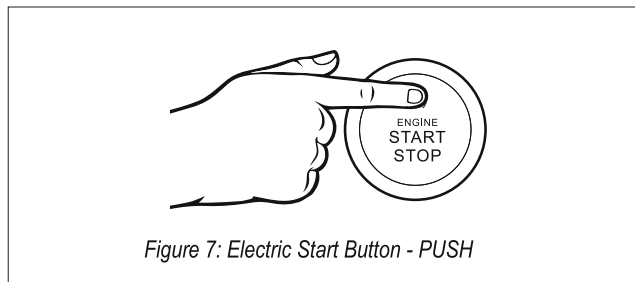

Figure 7: Electric Start Button - PUSH
7. Push and hold the engine start push button for 1 second and release (see Figure 7). The engine will automatically set the choke and begin the start sequence.